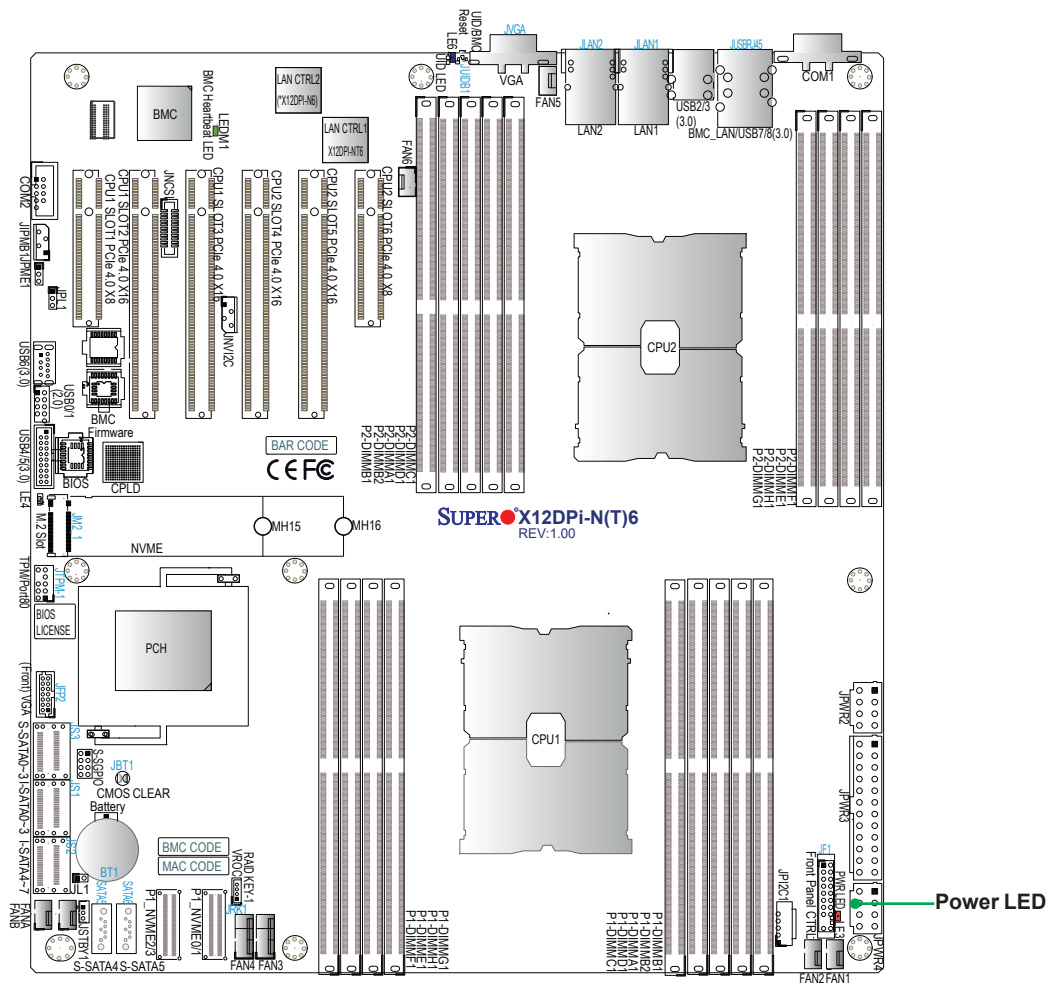

Figure 7-3. Location of the MB Power LED
4. Refer to the cable routing diagram and remove the front control panel connection on the motherboard to better see the power LED (LE3). See Figure 7-3.